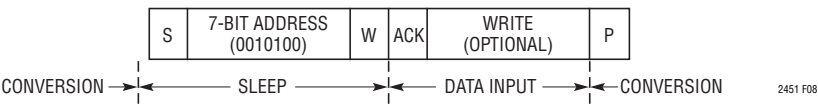

Figure 8. Start a New Conversion without Reading Old Conversion Result
At the conclusion of a conversion cycle, a write cycle can be initiated. Once the write cycle is acknowledged, a STOP (P) command initiates a new conversion. If a new configuration is required, this data can be written into the device and a STOP command initiates a new conversion (see Figure 8).